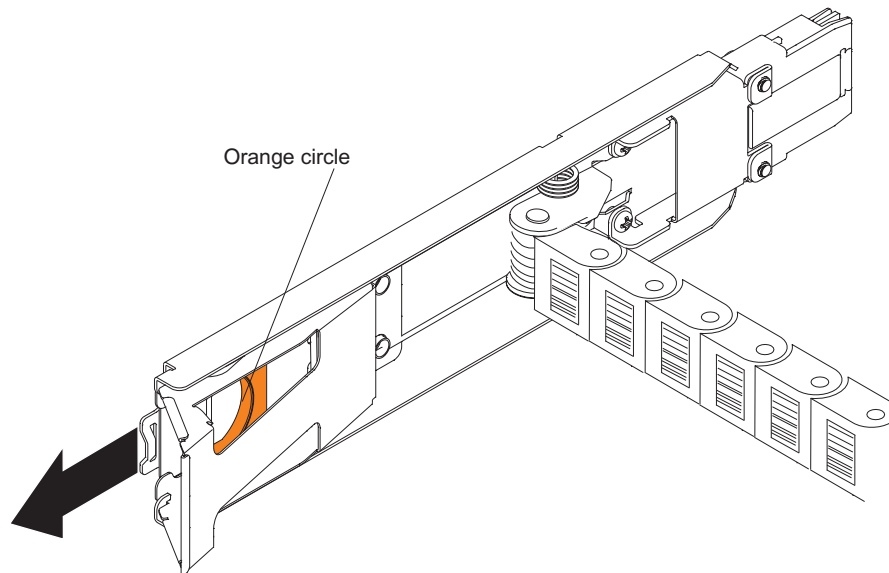

Figure 94. Vertical mounting bracket that connects to the midplane
- a. Disconnect the right cable chain mounting bracket from the midplane. Hold the orange handle (See Figure 94 on page 144) and pull the mounting bracket out of the storage expansion enclosure. If necessary, use a flashlight to locate the orange circle.